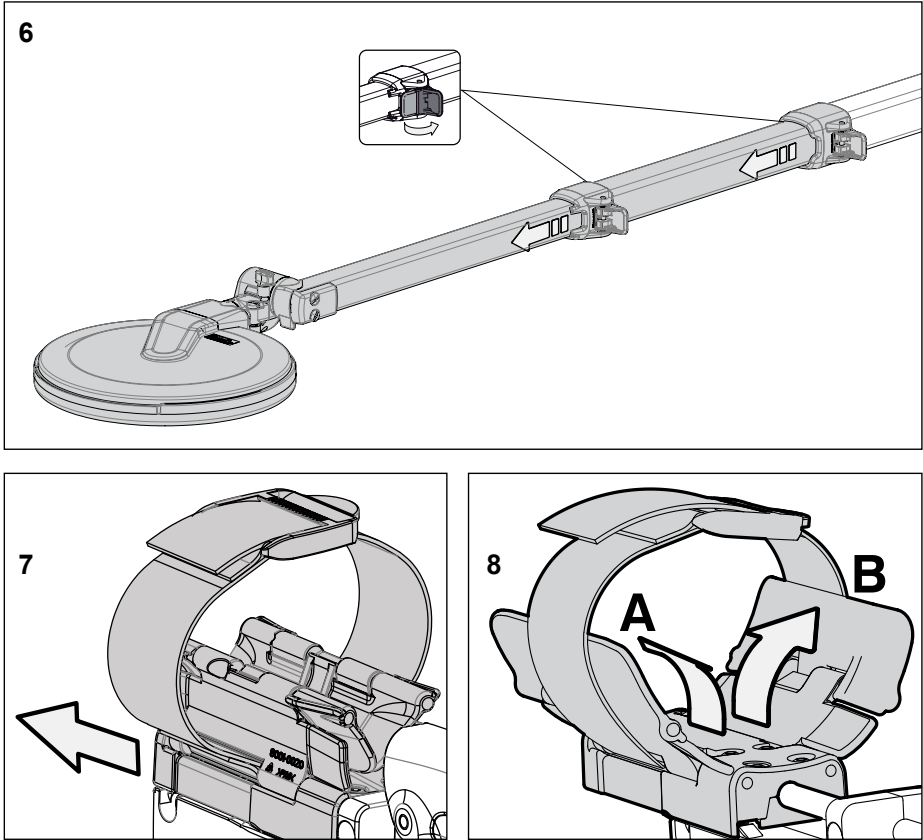

Figure 5: Guide to unfolding and adjusting the F3Ci
- e. Using Figure 5 as a guide, unfold and adjust the F3Ci.